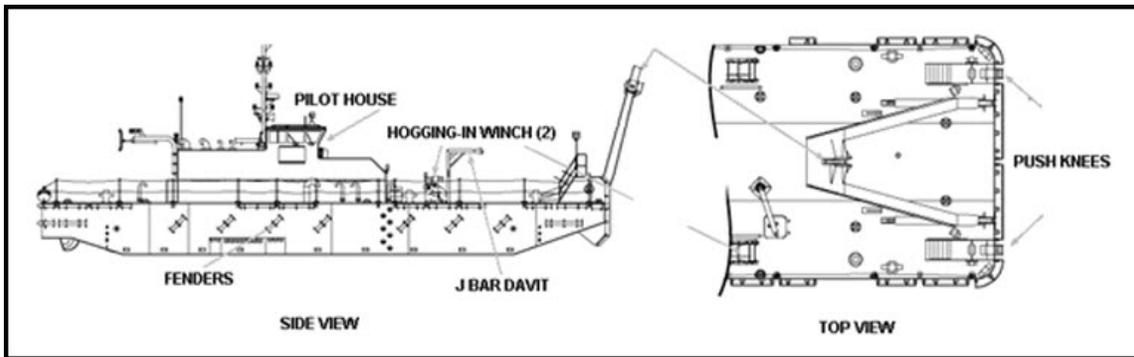

Figure 13-5 Warping Tug (WT)
13.3.4.6 Warping Tug (WT)
The WT (Figure 13-5) is a platform by itself and operates independent of all other modules. The WT assists in platform assembly, disassembly, installation, anchor deployment, anchor retrieval, salvage, relocation, station keeping and other MPF tasks to support a full range of operations for the causeway platforms. The WT is capable of independent operation through sea state (SS) 4 conditions and is survivable in SS5. The WT is used for assembly, installation, retrieval, and operation of all the subsystems in Container Off-loading and Transfer System (COTS).